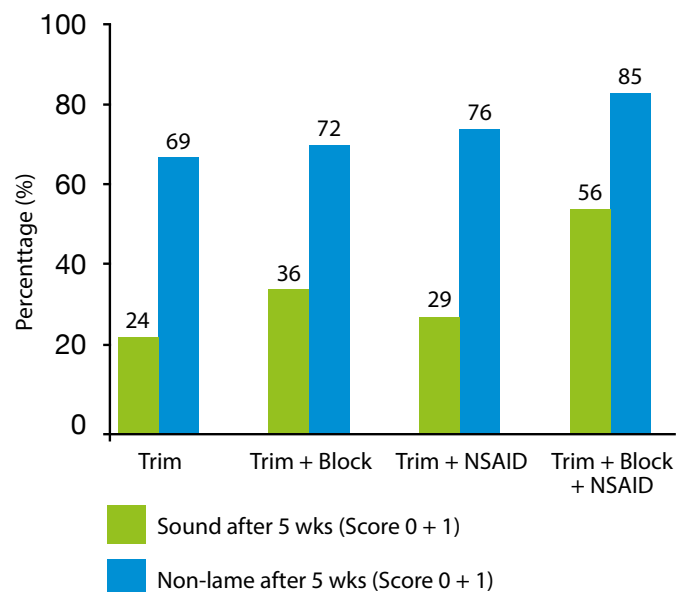

Figure 4. Cure rates for each of the treatments
- By five weeks after treatment 85% of the cows receiving a Trim + Block + NSAID were improved (Figure 4)